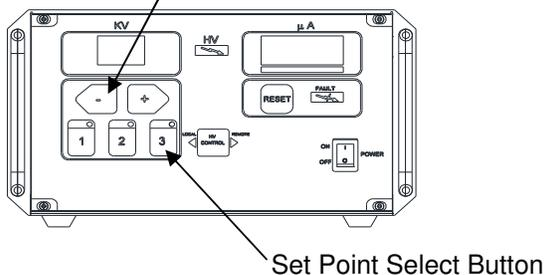

Figure 22: kV Adjust/Setpoint Buttons
When the applicator is off, the present setpoint can be changed by pressing the 1, 2, or 3 buttons on the front panel shown in Figure 22. The setpoint that is currently selected will have the LED light in the upper right corner of the button lit.
and - buttons on the front panel of the 9060 Controller shown in Figure 22. Single pushes of the + or - buttons will increment or decrement the currently selected preset in units of 1. When the + or - buttons are held in for longer than a 1/2 second, the kV display will begin incrementing or decrementing in units of five (5).